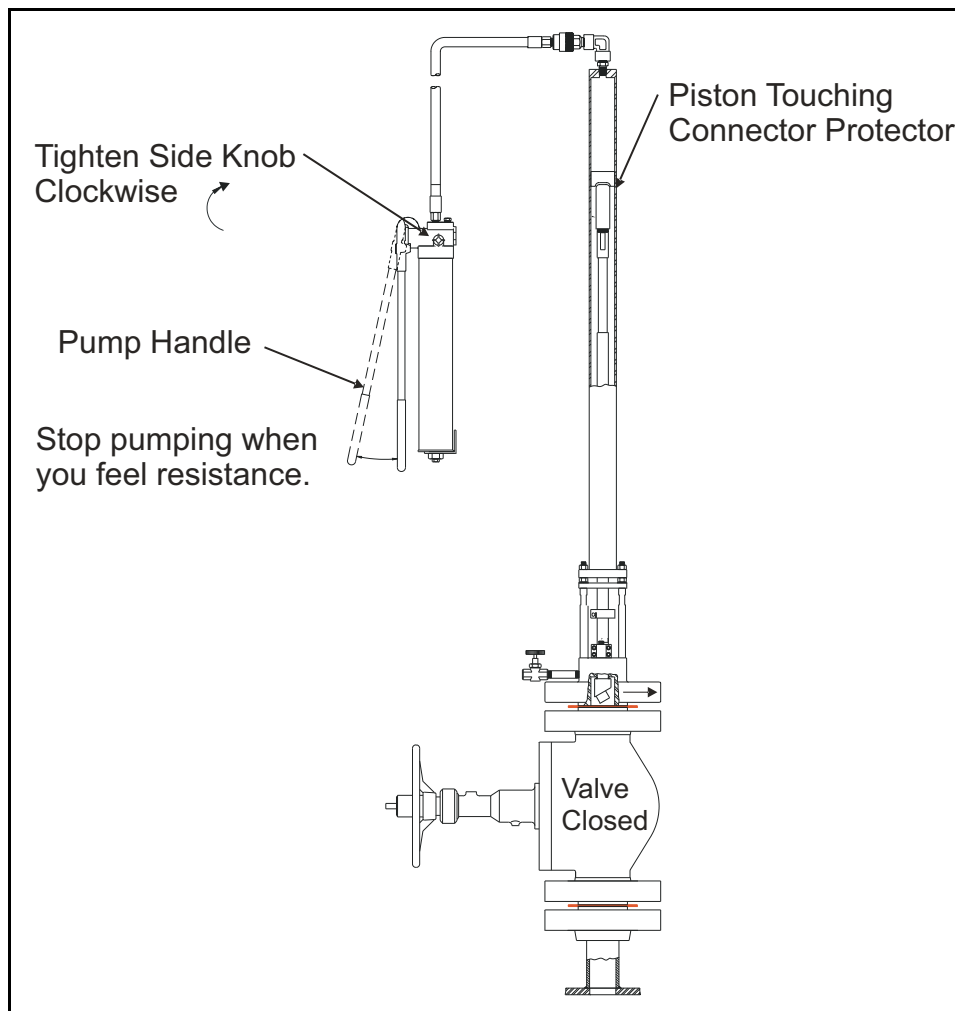

Figure 22: Tightening the Hydraulic Pump Side Knob
1. To prepare for pumping, rotate the side knob of the hydraulic pump clockwise to tighten it (see *Figure 22* below).